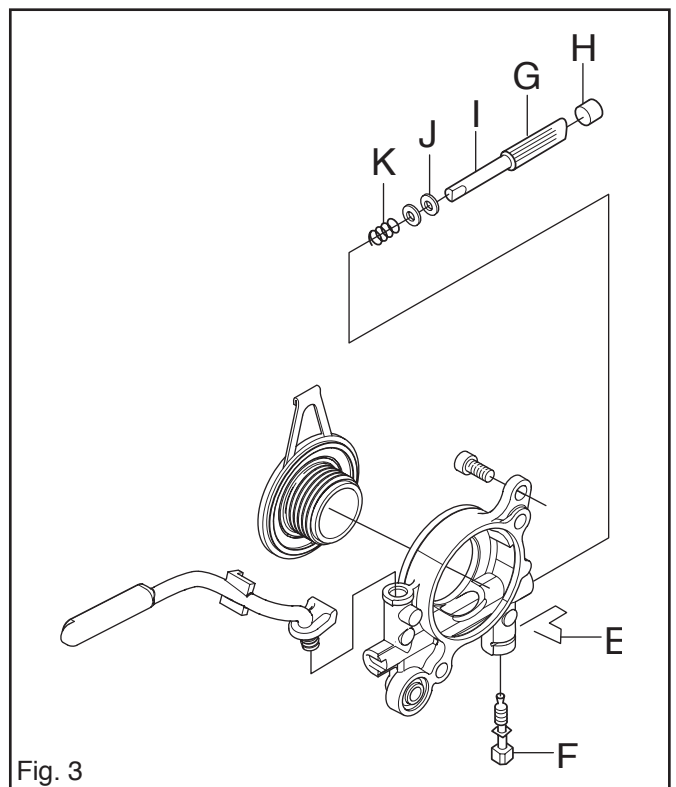

Fig. 3
7. Remove the clip (E) and unscrew the adjuster screw (F). See fig. 3.
8. Use a pair of pliers and push on the pump piston at G so that the cover plug (H) and pump piston (I) can be removed. See fig. 3.
9. Use a pair of pliers and pull out the spring (K) and 2 washers (J). See fig. 3.
2. Put the spring (K), 2 washers (J) on pump piston (I) and fit in the pump housing. Oil in all parts with chain oil. See fig. 3 page 28.
3. Use a screwdriver to press in the pump piston and screw home the adjuster screw (F). See fig. 3 page 28.
4. Fit the cover plug (H). See fig. 3 page 28.
5. Fit the clip (E). See fig. 3 page 28.
- The pump unit, C in fig. 3.